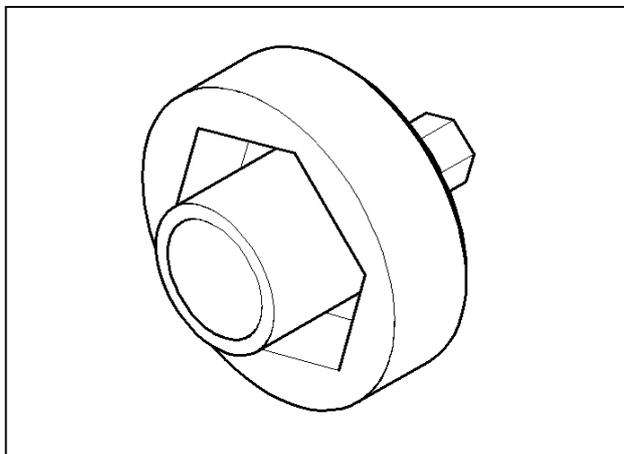

Figure 2: Hub nut socket VH 10732280
- 105 mm hub nut socket VH 10732280 (see Figure 2).